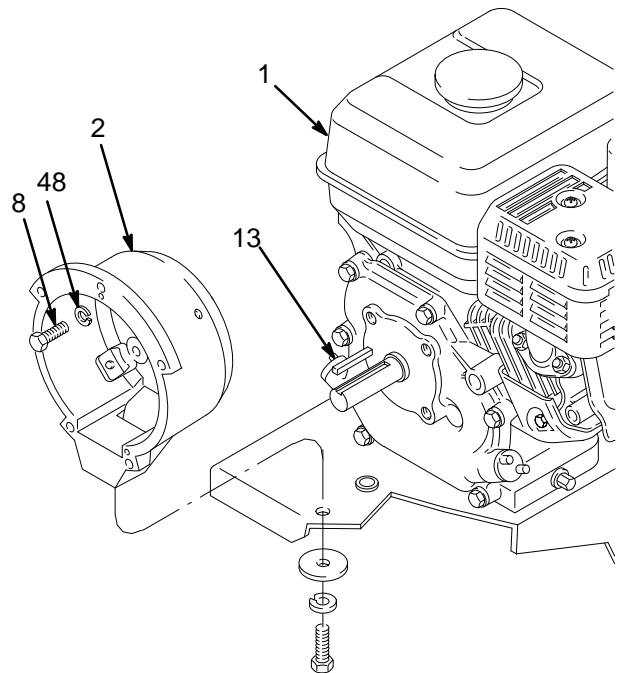

Fig. 28
**NOTE:** Refer to Fig. 28.
1. Remove the four capscrews (8) and lockwashers (48) which hold the clutch housing (2) to the engine (1).
2. Remove the engine key (13).
3. Pull off the clutch housing (2).